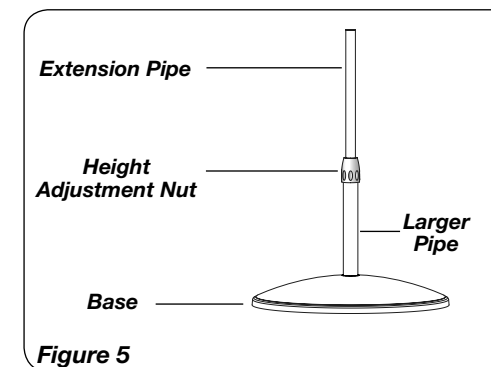

Figure 5
1. With a twisting motion, insert the end of the large diameter pipe into hole in Base. (**Figure 5**) Turning pipe while pushing will assure pipe is fully seated in Base.